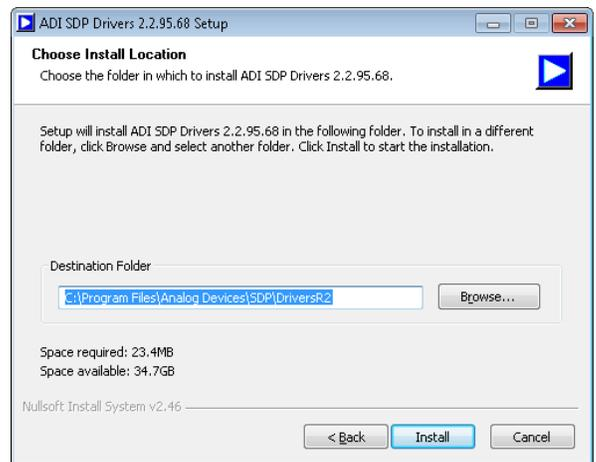

Figure 11. Choose Install Location
2. Choose the installation location and click **Install**; the default folder is shown in Figure 11.